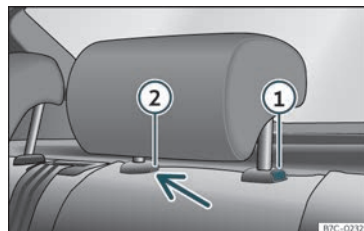

Fig. 108 Rear headrest: removal.
- Press button >>> Fig. 108 ①, while simultaneously pressing on the security hole ② with a flat screwdriver a maximum of 5 mm wide, and remove the headrest.